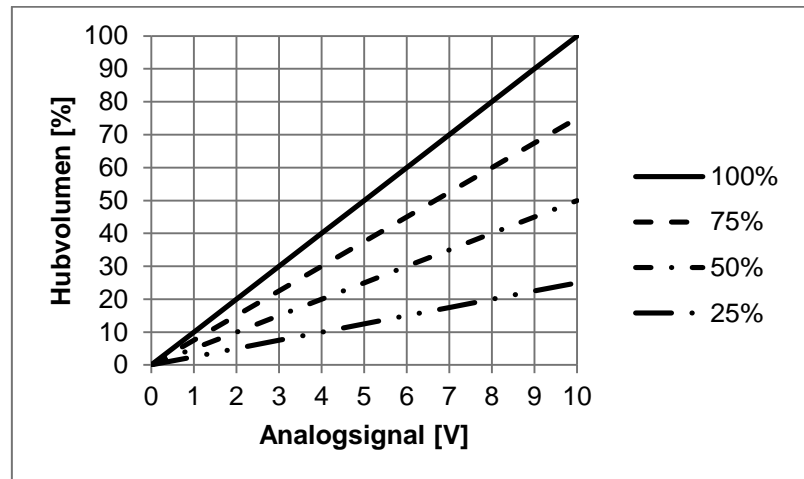

Fig. 18: Limiting of maximum stroke by P2
- ➔ In this reduced range, the stroke volume behaves linear to the analog signal (see Fig. 18, 50% line).